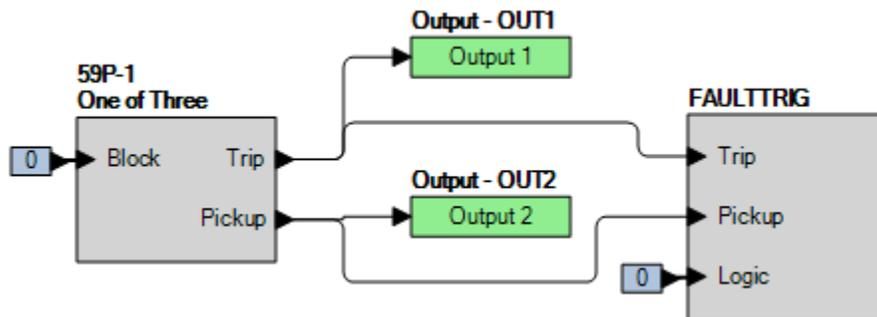

Figure 45-1. BESTlogicPi.us Settings
Step 2: Use BESTCOMSPi.us to configure the BESTlogicPi.us programmable logic shown in Figure 45-1.
Step 4: Prepare to monitor the 59P-1 function operation. Operation can be verified by monitoring OUT2 (see Figure 45-1).